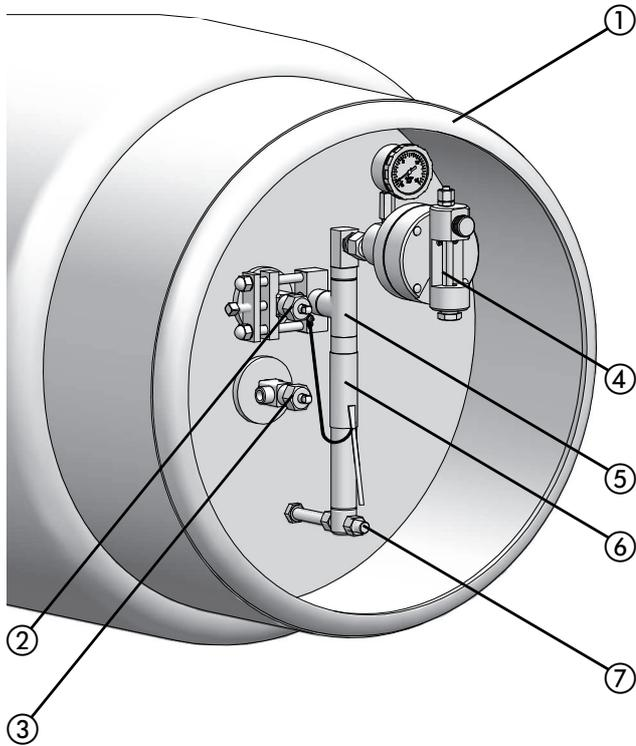

Fig. 6-2: Barrel assembly with YOKE connection
1. Fit a new seal on the centring pin ② at the input of the catchpot.
2. Hold the catchpot to the barrel valve and tighten the clamping screw ④ by hand.
3. Adjust the distance piece (see fig. 6-2 on page 14) such that the catchpot is in an upright position.
4. Carefully tighten the clamping screw ④ with a size 13 spanner wrench. The tightening torque is approx. 12 Nm. If leakage is detected after the leak test, the screw may be retightened by max. 20 Nm.